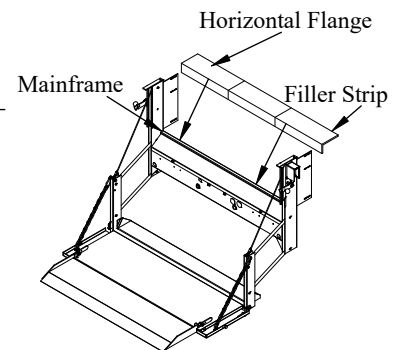

Figure 6: Filler strip location.
1. **Arrange** the three (3) filler strips along the top corner of the liftgate mainframe (Figure 6). Position the long flange horizontal.
2. **Attach** the three (3) filler strips to the mainframe with the provided self drilling screws. Avoid obstructions inside the mainframe box while attaching filler strips.
3. **Apply** the remaining vinyl tape to the under side of the filler strip (Figure 6).